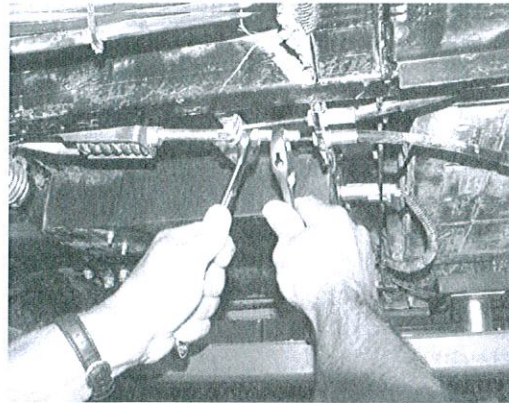

Fig. M2 Adjusting cable
2. Adjust brake cable tension so that brake pads drag against rotor. (See Fig. M2) Then firmly actuate brake pedal a few times. Loosen brake cables just enough that the rotors spin freely. Firmly actuate pedals each time you make an adjustment. Cables should be tight enough for good pedal feel but not cause brake drag.